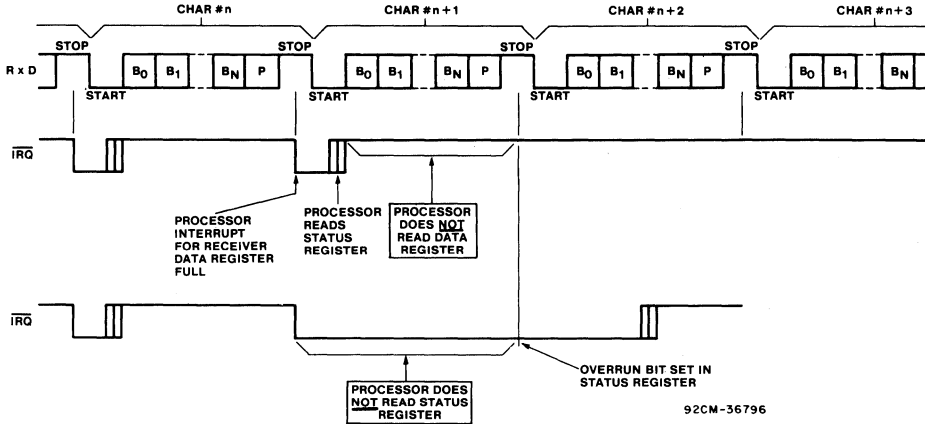

Fig. 12 - Effect of overrun on receiver.
**Effect of Overrun on Receiver (Fig. 12)**